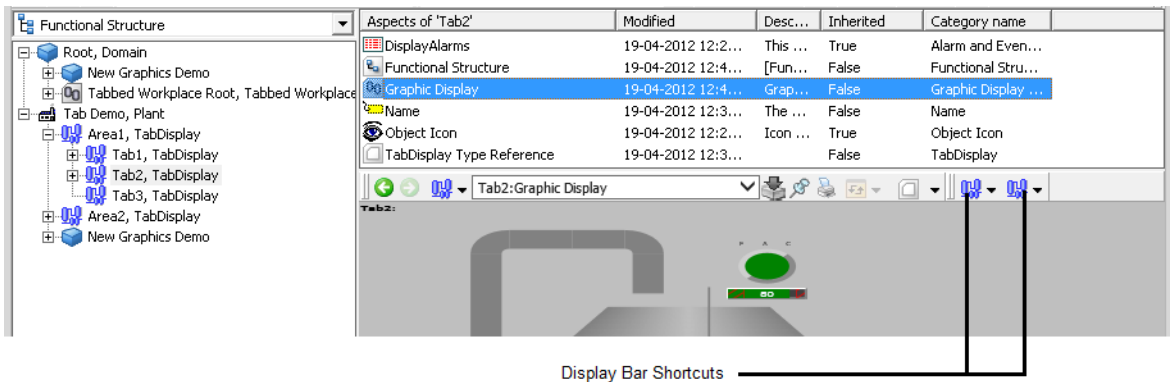

Figure 29. A Workplace Window with Display Shortcuts
The Display Bar is connected to a specific Display. Figure 29 shows an example of a Display Bar.
4. A Display Shortcut will be displayed in the Display Bar, to the right of the other tools. See Figure 29.